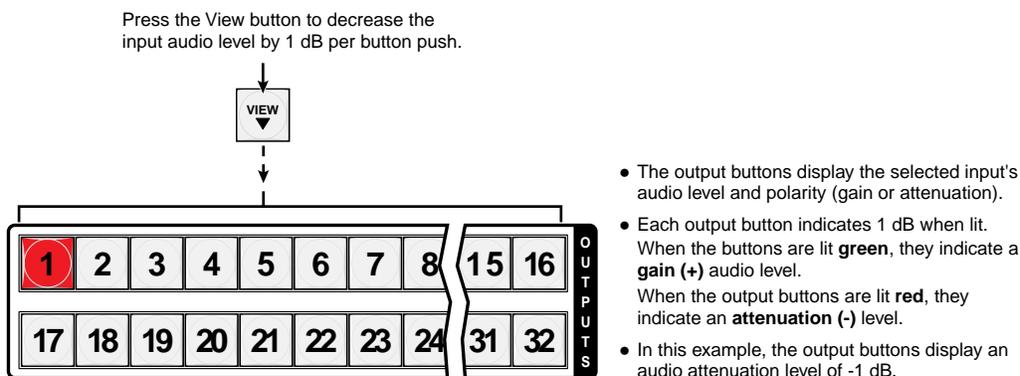

Figure 3-62 — Adjust the input audio level
- Press and release the View (▼) button once (figure 3-62) to decrease the input audio level by 1 dB.
Press and release the View (▼) button several more times (figure 3-62) to decrease the input audio level by 1 dB per button press. Note the output button indication changes that occur each time the View (▼) button is pressed.
Figure 3-62 shows the result of pressing the View (▼) button a total of nine times. Note that the level is now displayed in red to indicate a negative level.
Figure 3-63 shows the same level (-1 dB) as in figure 3-62, but displayed on a 16-output-button switcher, such as a MAV Plus 1616 A.
Figure 3-64 shows the same level (-1 dB) as in figure 3-62, but displayed on a 8-output-button switcher, such as a CrossPoint Ultra 128 HVA.